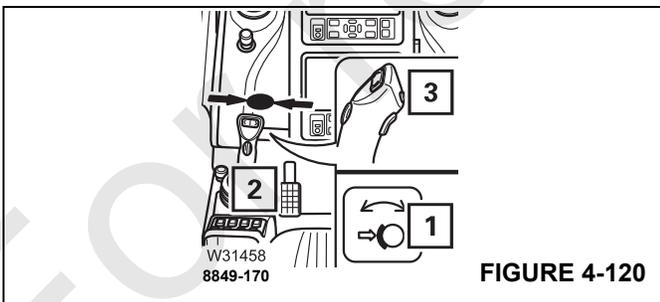

FIGURE 4-120
- Enable the swing gear. The swing gear brake is released – lamp (1), (Figure 4-120) lights up.
- Shift the control lever (2), (Figure 4-120) to its initial position.
- Press the button (3), (Figure 4-120). The swing gear hydraulic brake is released.